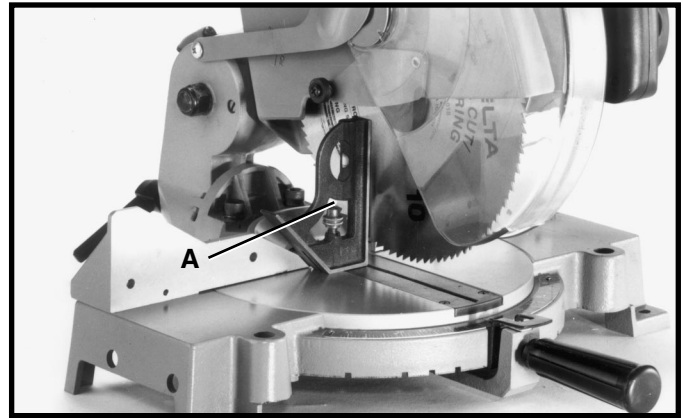

Fig. 21
3. Using a square (A) Fig. 21, place one end of the square on the table and the other end against the blade. Check to see if the blade is at 90 degrees to the table, as shown in Fig. 21.